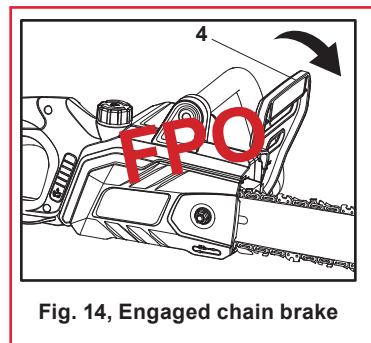

Fig. 14, Engaged chain brake
Engaged chain brake: When the chain brake lever (4) is in the engaged position, the saw chain is stopped immediately (Fig. 14).